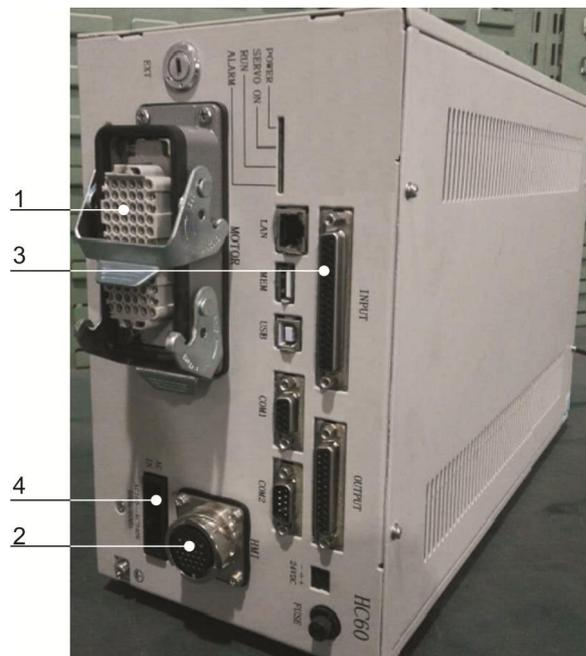

Figure 2-1: QC400 schematic side
- Figure 2-1 shows the schematic side of robotic drive controller(QC400);